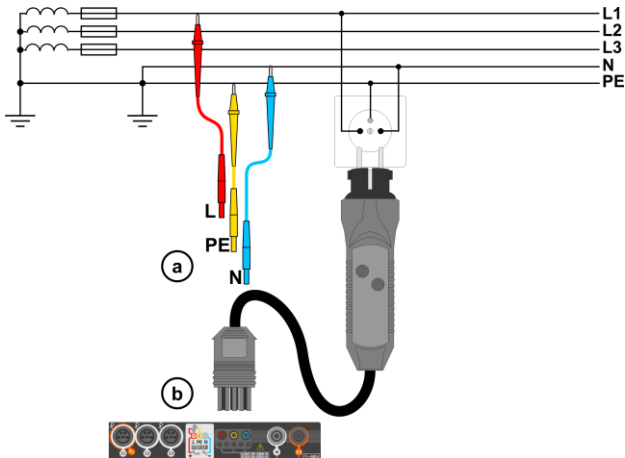
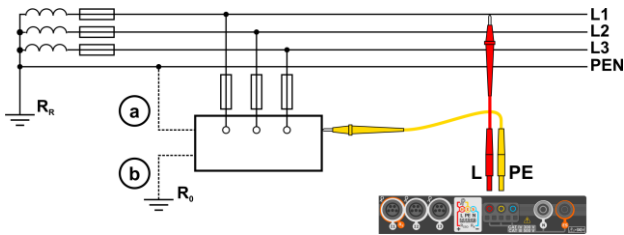

Fig. 3.1 Measurement in L-PE circuit
Fig. 3.2 Checking effectiveness of protection against electric shock of the meter housing in case of: (a) TN network or (b) TT network
③ Select other settings and perform the measurement using the **START** button on the device.
① Connect test leads according to Fig. 3.1 or Fig. 3.2.